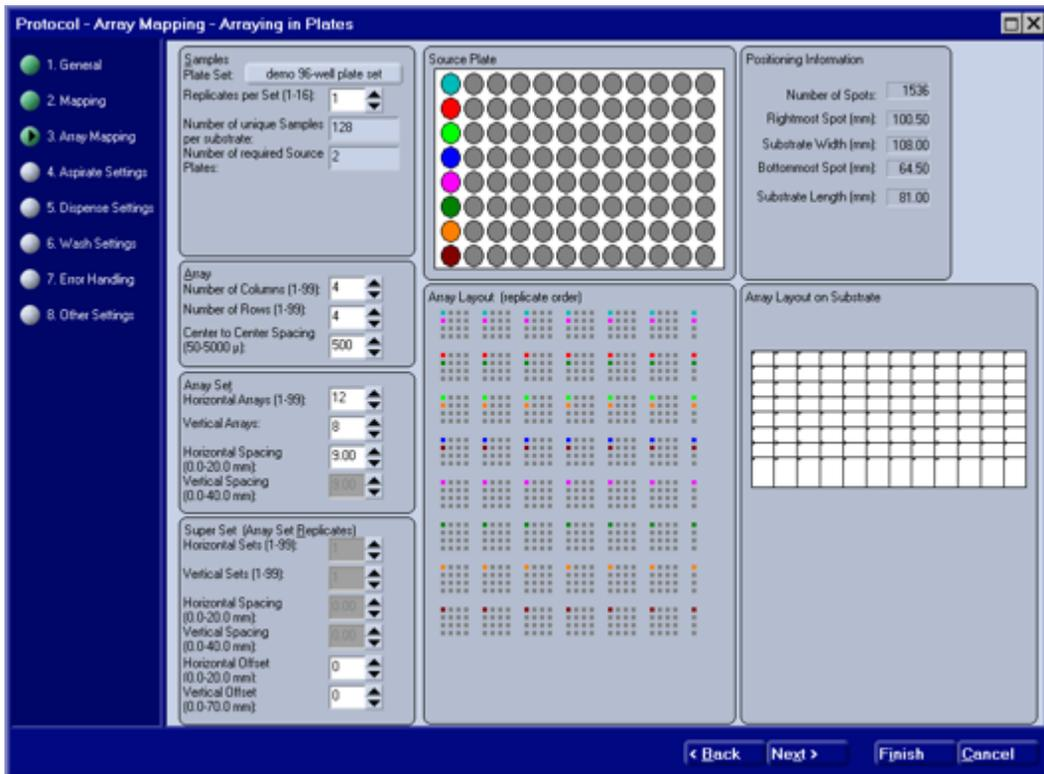

Figure 8-8. Protocol for Arraying into Microplate Wells.
7. When mapping the source samples to substrate locations (Figure 8-8), make sure to set the following parameters: